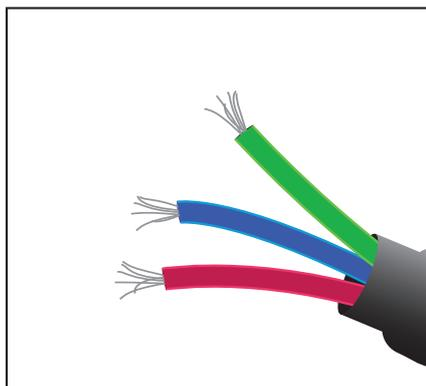
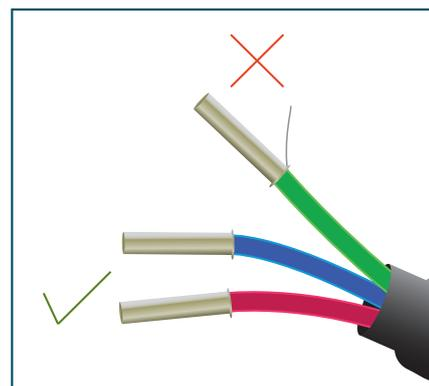
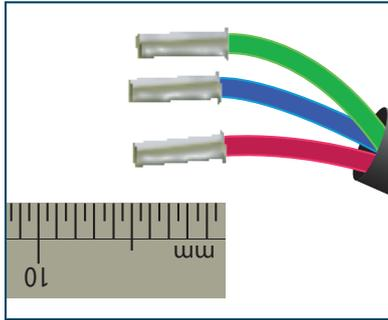
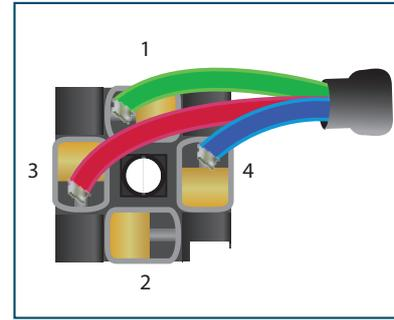

Figure 3 *Bare Wires*
Figure 4 *Crimped Wires*
Figure 5 *Cut to 5mm*
Figure 6 *Connection to Connector Terminal Block*
If making a cable assembly it is important that the cable is correctly terminated. See *Figures 3 to 6*.
**NOTE: *Figure 3 to Figure 6* shown below, should be followed in detail. The crimps should be applied such that there is no possibility of a conductor strand of a core becoming free (see *Figure 4*).**
When the crimp is made it should have a minimum of 2 positions of crimping. After the crimp is made it should be trimmed to a length of 5mm (see *Figure 5*). When the crimps are installed into the connector terminal block ensure they are fully inserted, as shown in *Figure 6*, before tightening the terminal clamping screw.